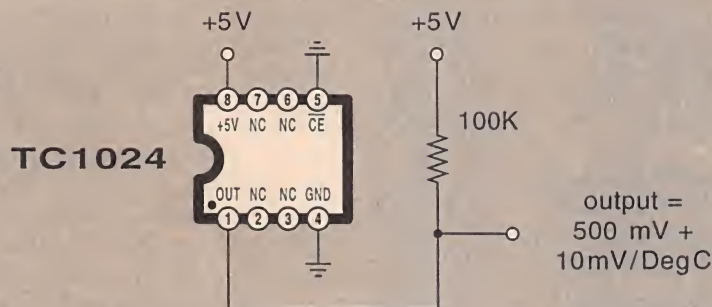

FIG. 4—THE TELCOM TC1024 is an analog-output temperature sensor.
**Telcon TC1024:** This one, shown in Fig. 4, is an older temperature-to-voltage converter IC, working over a  $-40^{\circ}\text{C}$  to  $+125^{\circ}\text{C}$  range. 2.0-degree accuracy and 0.8-degree linearity is offered. Output voltage is ten millivolts-per-degree C. Single-supply voltage can range from 2.2 to 12 volts. The operating current is typically 40 microamperes active and 5 microamps in shutdown mode. There is a 0.5-volt offset in the output. A companion TC1073 device offers zero offset, but requires use of a